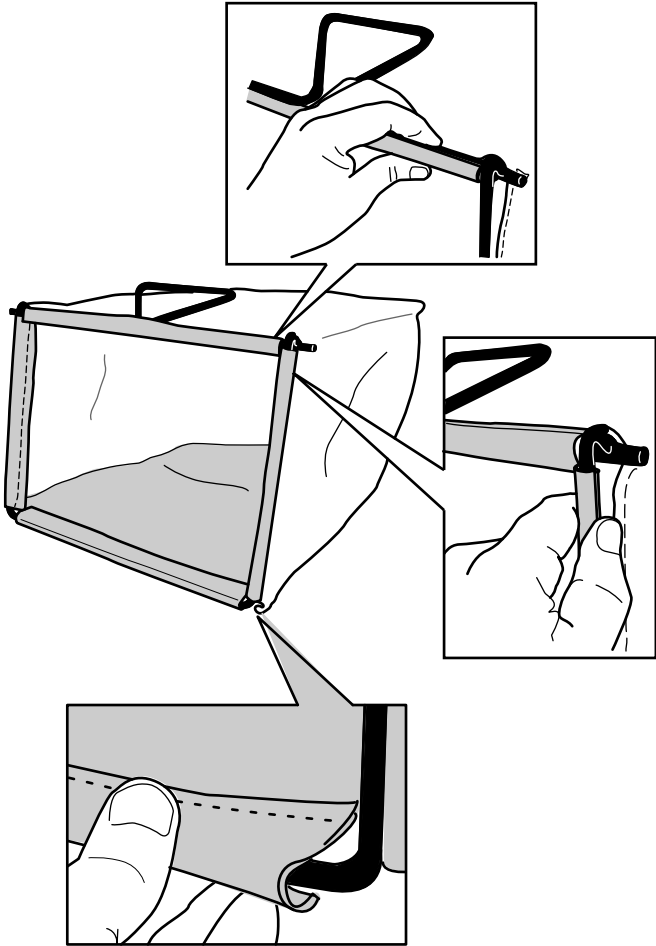

Figure 8
2. Hook the bottom channel of the bag onto the bottom of the frame (Figure 8).
- Hook the top and side channels of the bag onto the top and sides of the frame, respectively (Figure 8).